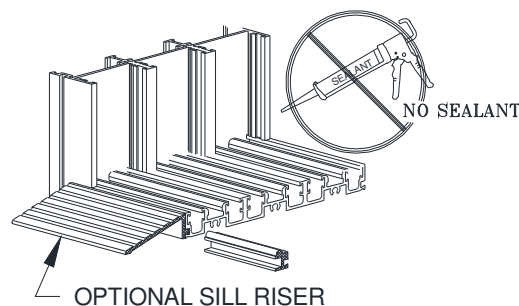

Figure 15:
7. If sill riser (optional) is included, insert riser tab into sill pocket and slide together (Figure 15).